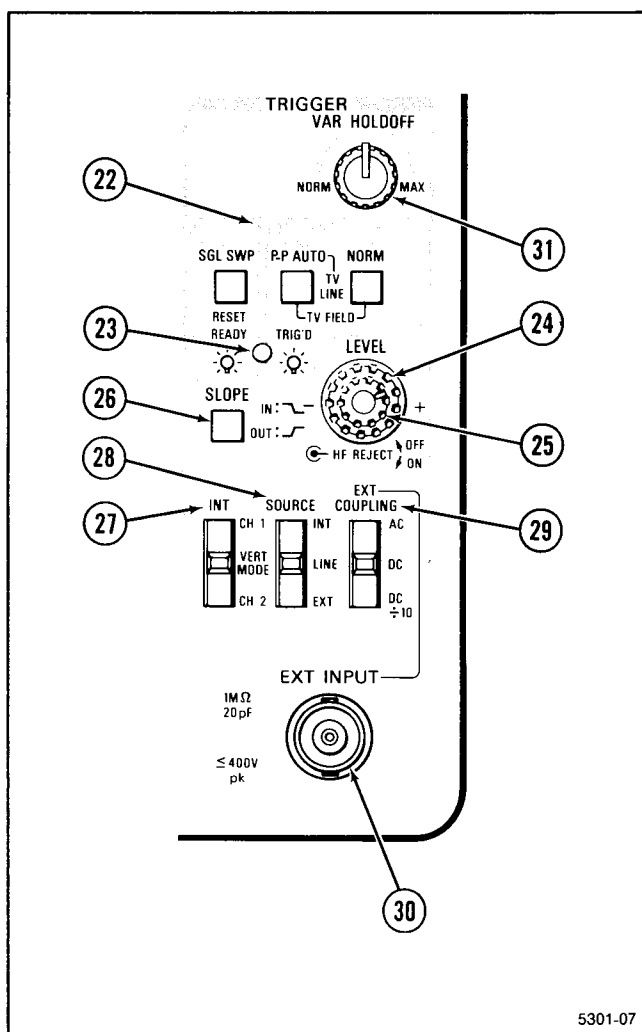

Figure 2-7. Trigger controls, connector, and indicator.
See Figure 2-7 for the location of items 22 through 31.